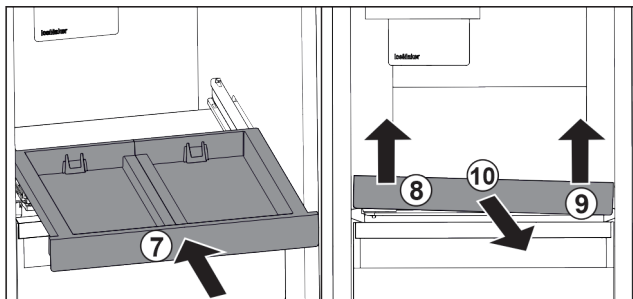

Fig. 31
- Slide in the pull-out board. Fig. 31 (7)
- Lift the pull-out board at the front left. Fig. 31 (8)
- Lift the pull-out board at the front right. Fig. 31 (9)
- Take out the pull-out board to the front. Fig. 31 (10)